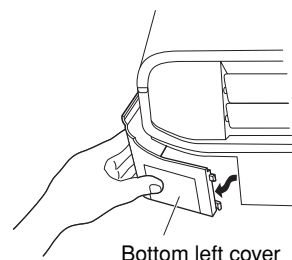

Fig. 39b
- (a) Grasp the corners of the bottom left and right indoor unit covers, and press down on the bottom while lifting each cover up to remove it. (Fig. 39b)